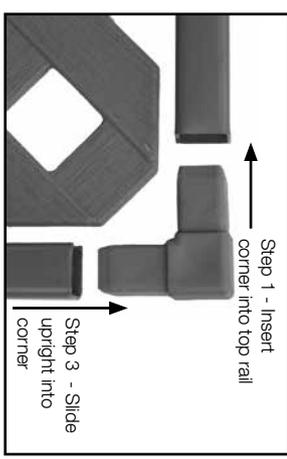

Fig 4
1. Lay the Matrix Fence Extension on a clean flat surface. Insert a plastic moulded corner into each end of the TOP C-Channel as per Fig. 4 and tap in gently. Take care not to damage the corners.
3. Insert the upright so that it slots into the plastic bracket as shown in Fig. 6a & b. Slide the upright over the edge of the lattice up to the moulded corner in the top C-Channel as shown in Fig. 4, then gently tap it onto the moulded corner. Repeat step 3 for the other end of the fence extension.